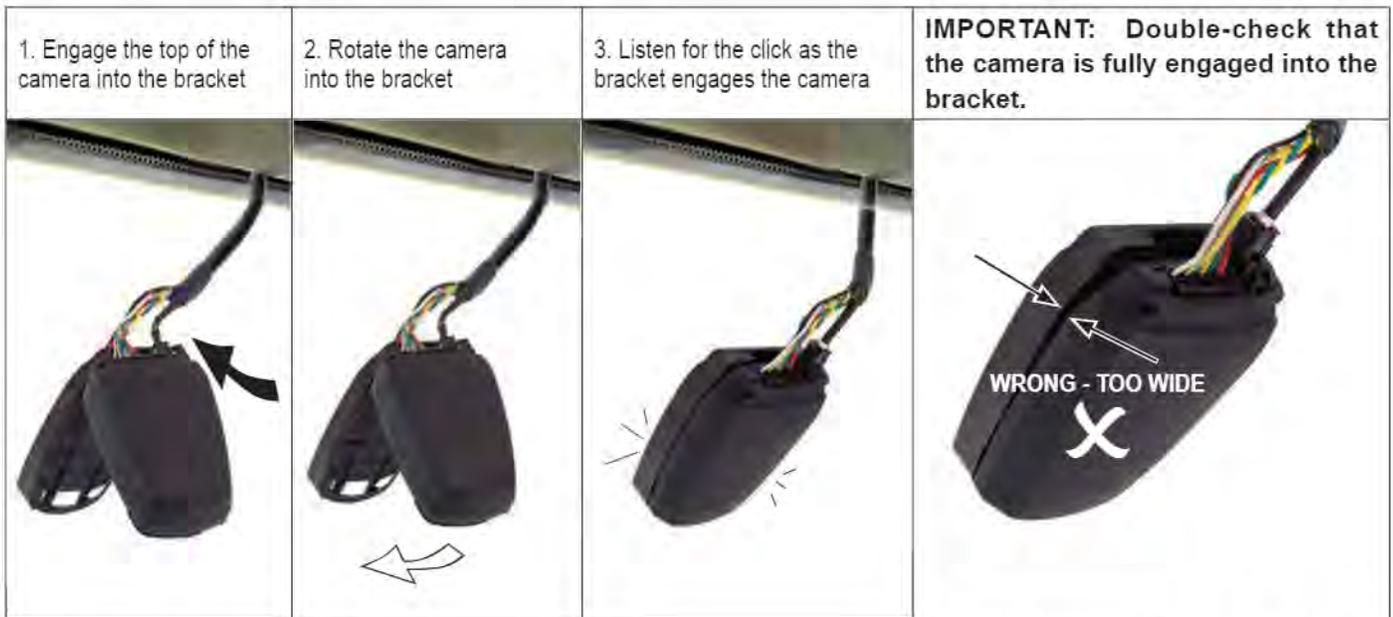

Figure 12 – Camera Installation
To install the camera into the bracket, See Figure 12.
- Double-check that the camera is fully engaged into the bracket, by verifying that the channel between them has the same gap all the way around. Pull gently on the camera to check that the tabs at the top and bottom are engaged and that there is no play. See Figure 12.